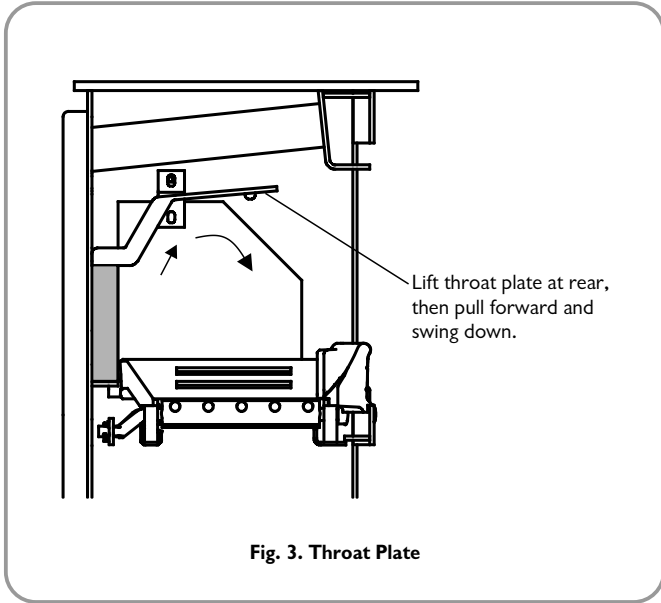

Fig. 3. Throat Plate
Before attempting to clean the throat plate and flueways ensure that the fire is cold. Wear suitable gloves to prevent irritation from soot deposits. To remove the throat plate lift the back edge up to disengage the rear retainers and then slide the plate forward until it comes clear of the front pegs (see Fig. 3.)
After clearing any soot from within the stove, replace the throat plate (see Fig. 3), the side fireplates, and front firebar .
3. The throat plate must be fitted in the roof of the appliance and should be checked to ensure that it has not become dislodged in transit. The method of location and positioning of the throat plate is shown in Fig. 3.